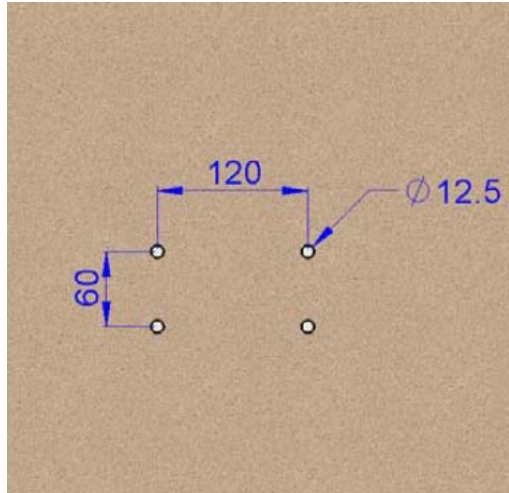

Figure 25
Step 1 Use the tools to drill the holes on the wall, as shown in figure 25.
1. Right-click a newly added device and then select **Get MOID From Device** from the short-cut menu, as shown in Figure 25.